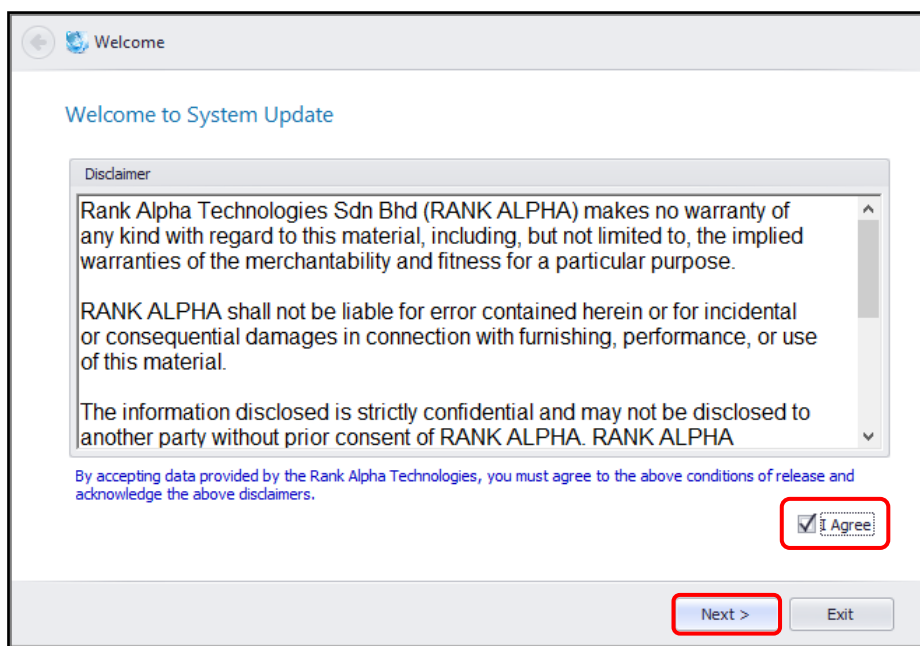

Figure 26
- iv. Click on **Next** button on Figure 26, below screen will appear for user to confirm the system name and Id.